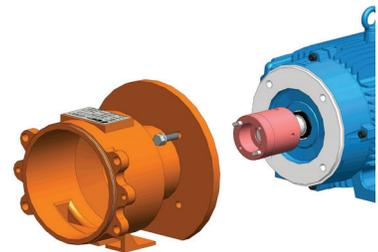

figure 15
2. Remove the four motor adapter bolts and lock washers (items 16 & 16A). Pull the motor adapter (Item 9) off the motor. For IEC 160 frame, remove the motor adapter from the motor adapter flange (Item 10). *See figure 15.*